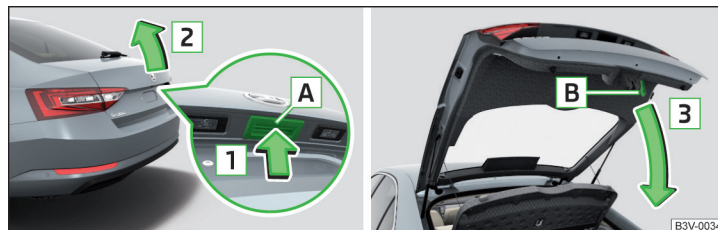

Fig. 57 Opening / closing tailgate
- ▶ To **open**, press the **A** button in the direction of arrow **1** » Fig. 57.
Button **A** » Fig. 57 is deactivated when starting or at a speed of more than 5 km/h. The button is activated again after the vehicle has stopped and a door is opened.